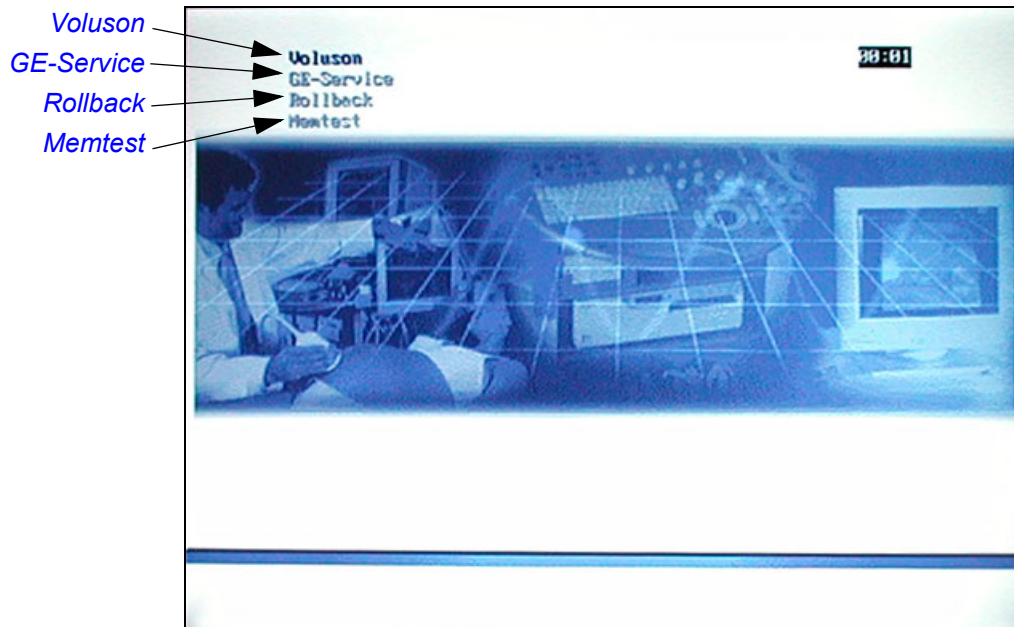

Figure 5-50 Boot screen
- 2.) As soon as the "Boot Screen" appears (see: Figure 5-50 on page 5-68), press the **PG DN** [↓ Arrow down] key on the keyboard until the **Rollback** item is highlighted, then press **ENTER**.
- 2.) As soon as the “Boot Screen” appears (see: Figure 5-50 on page 5-68), press the PG DN [↓ Arrow down] key on the keyboard until the **Memtest** item is highlighted, then press ENTER.